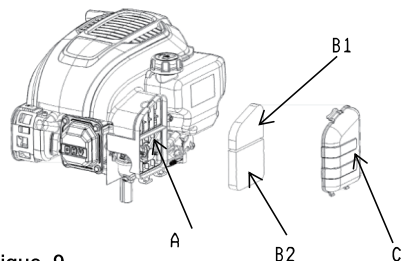

Figure 9
9.7.1 INSPECTION(See Figure.9)